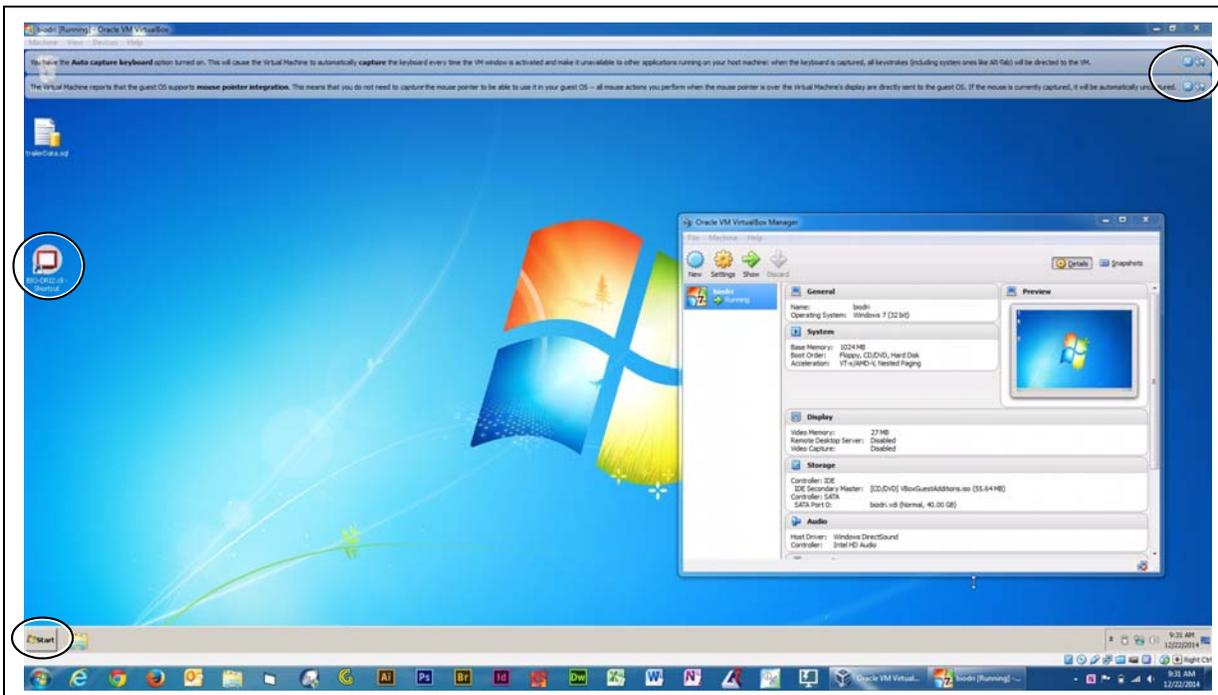

Figure 11B
1. To start the Biodri software, click on the Desktop Icon. (See Figure 11B.)